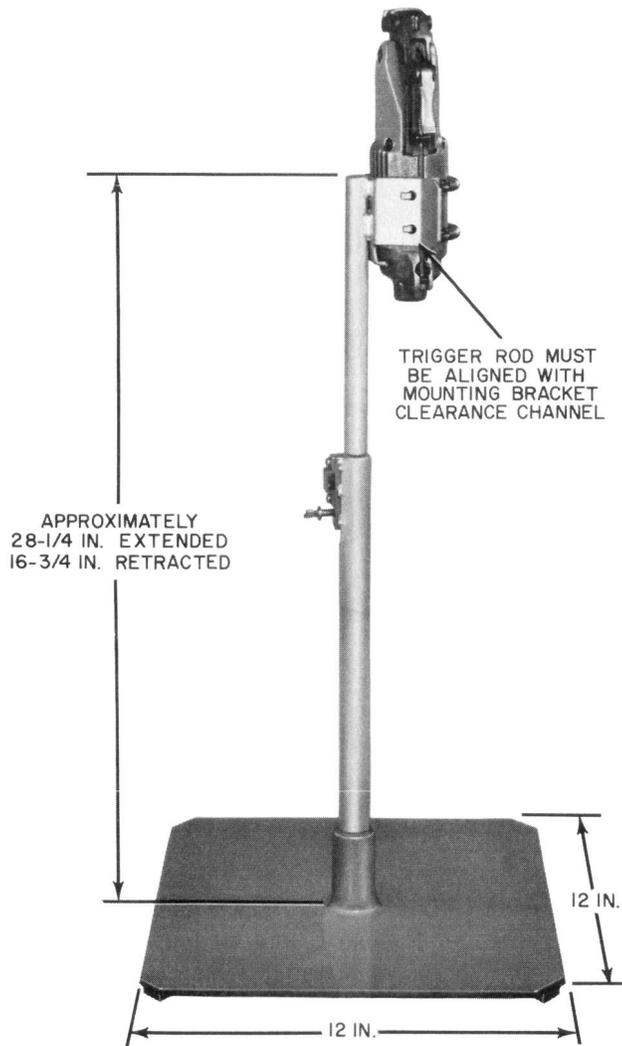

Fig. 2—C Presser Stand
2.04 The C Presser Stand (Fig. 2) is a mounting support for the C Pneumatic Presser. The stand consists of a baseplate, telescoping support post, and a mounting bracket for the presser. The stand weighs approximately 12 lbs.